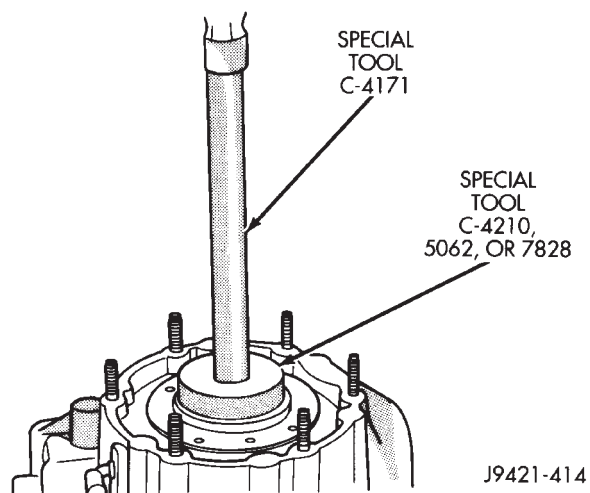

Fig. 47 Input Bearing Installation
(2) Seat input bearing in case (Fig. 47). Use driver Handle C- 4171 and Installer C-4210, 5062, or 7828 to install bearing. Seat bearing until locating ring is flush against case.